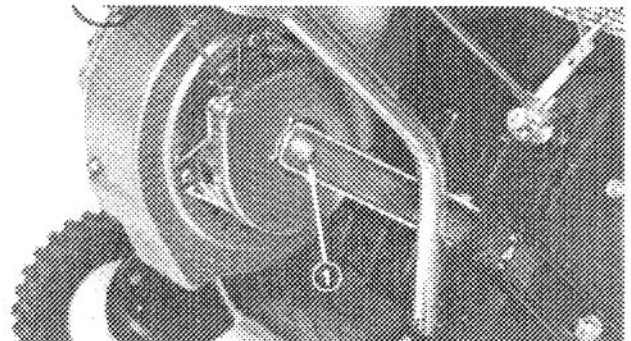

Figure 11
4. Loosen engine mounting bolt on right-hand side of unit (Fig. 11).